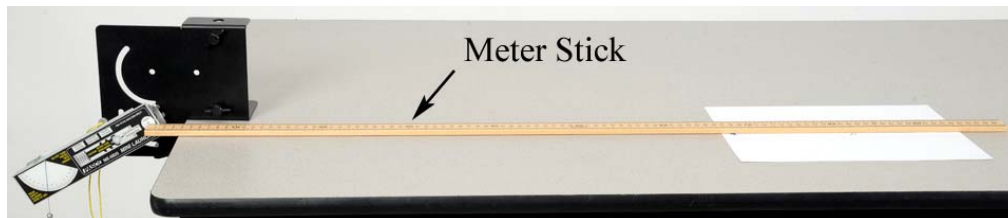
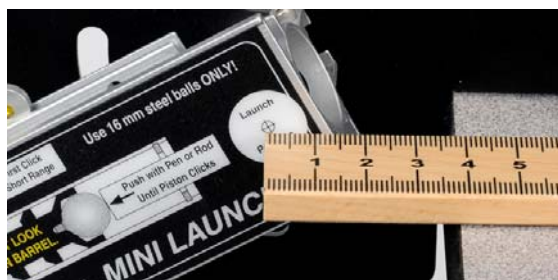
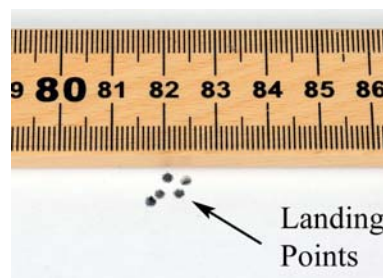

Figure 9: Measuring Range
Figure 10: Launch Position
Figure 11: Spread of Points
6. Use a Meter Stick (see Fig. 9) to measure the ranges. This distance should be measured from the center of the launch position of the ball as shown in Figure 10. Create a table in Capstone with one column with a run-tracked user-entered data set called Distance with units of m. Turn on the statistics in the table and choose mean and standard deviation. Measure each landing point separately (see Fig. 11) and enter them into this table. Rename the run to “20 degrees”.